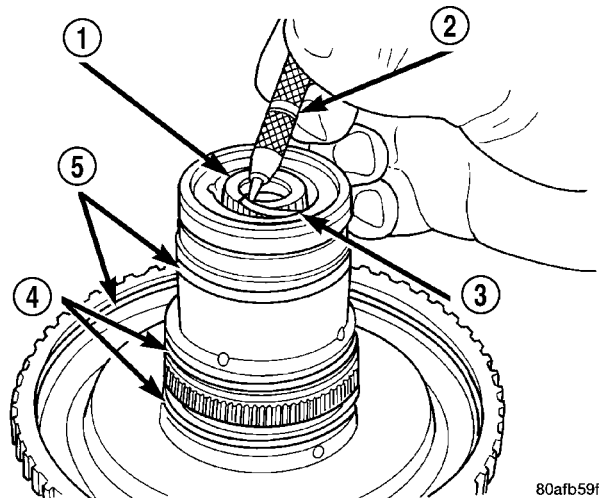

Fig. 210 Remove Input Shaft Snap Ring
(19) Remove input shaft to input clutch hub snap ring (Fig. 210) (Fig. 212).